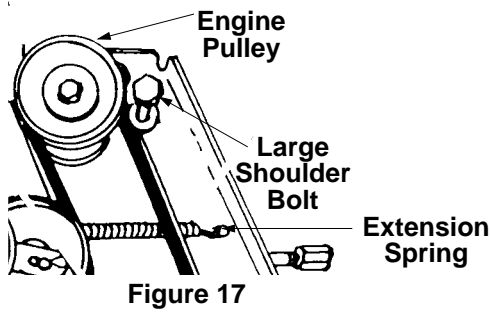

Figure 17
3. Remove the large shoulder bolt and washer on the left hand side of the engine pulley with an adjustable wrench. Refer to Figure 17.
- Unhook extension spring from the belt cover plate. See Figure 17.
- Reassemble the large shoulder bolt and lock washer as shown in Figure 17.